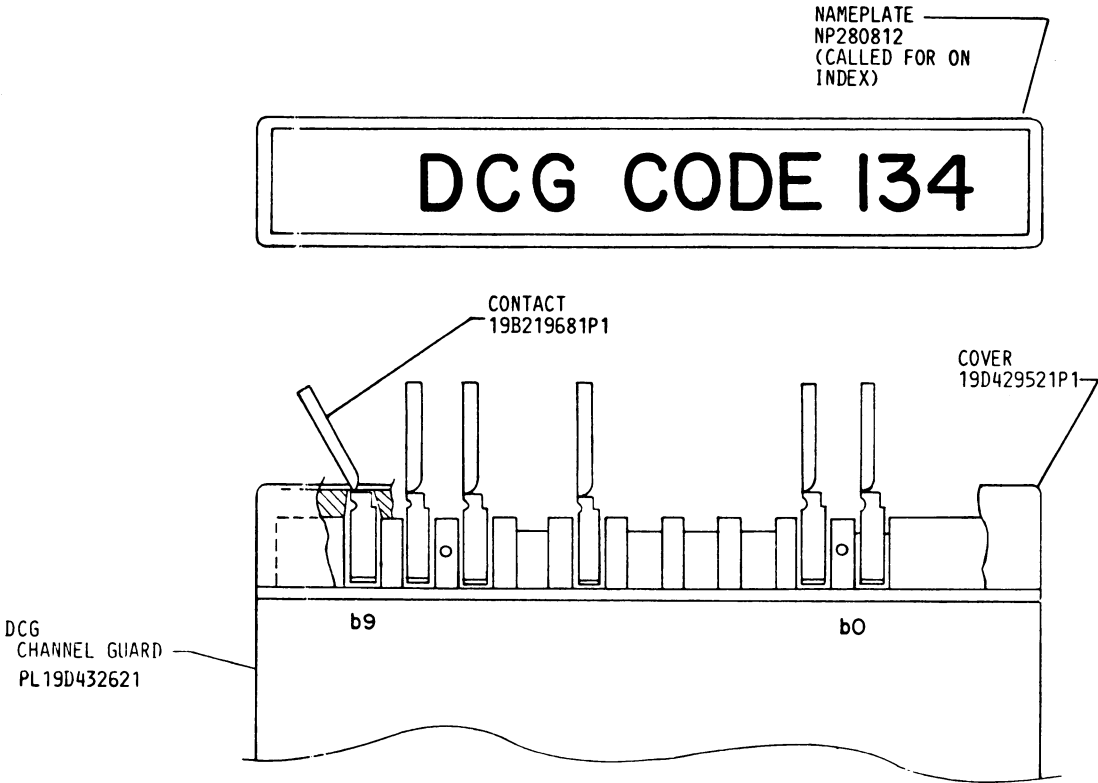

FIG. 2
1. INSTALL CONTACT PINS (19B219681P1), PER FIG. 2, IN POSITIONS INDICATED BY "X" IN CHART 1, WHICH AGREES WITH DESIRED DCG CODE. (NOTE - EXAMPLE SHOWN FOR 134).